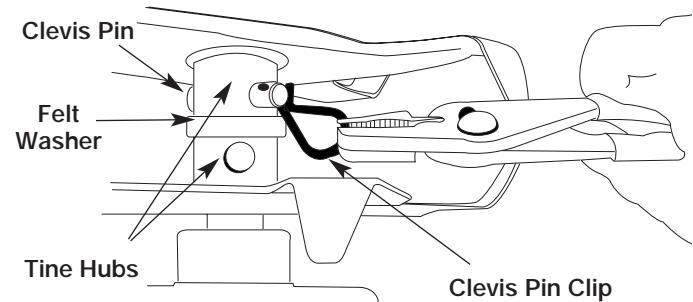

Figure 20
1. Put the On/Off Stop Control in the **STOP (O)** position and disconnect the spark plug wire.
2. Remove the clevis pin clips and clevis pins. See Figure 20.